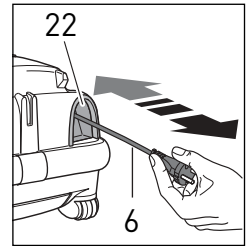
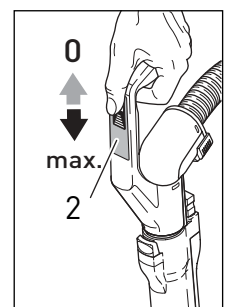

Figure 1
Figure 9
Starting The Machine - Figures 1, 2 & 3
Starting The Machine and Suction Control - Figures 1, 2, 8, 9, 10a & 10b
1. With the canister main power control knob (9) in the OFF position, and the power control slider on the handle (#2, figure 9) in the OFF position, pull the power cord out from the base of the canister (figure 1). The power cord should be unwound from the cable reel at least two thirds of its length. **Note:** do not over-extend the cord.